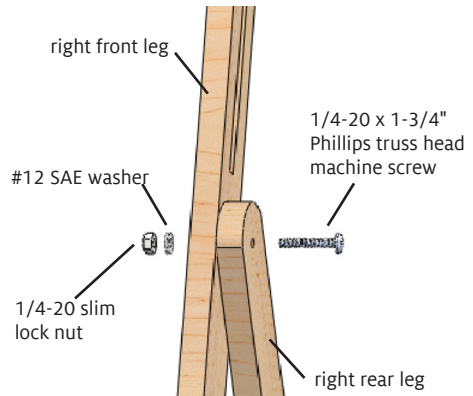

FIGURE 2: ATTACH FRONT AND REAR LEGS
2. Insert a 1/4-20 x 1-3/4" Phillips truss head machine screw through the rear leg, then through the front leg (Figure 2). On the inside of the front leg, add a #12 SAE washer and attach with a 1/4-20 slim lock nut. Tighten just until the legs can swing freely.